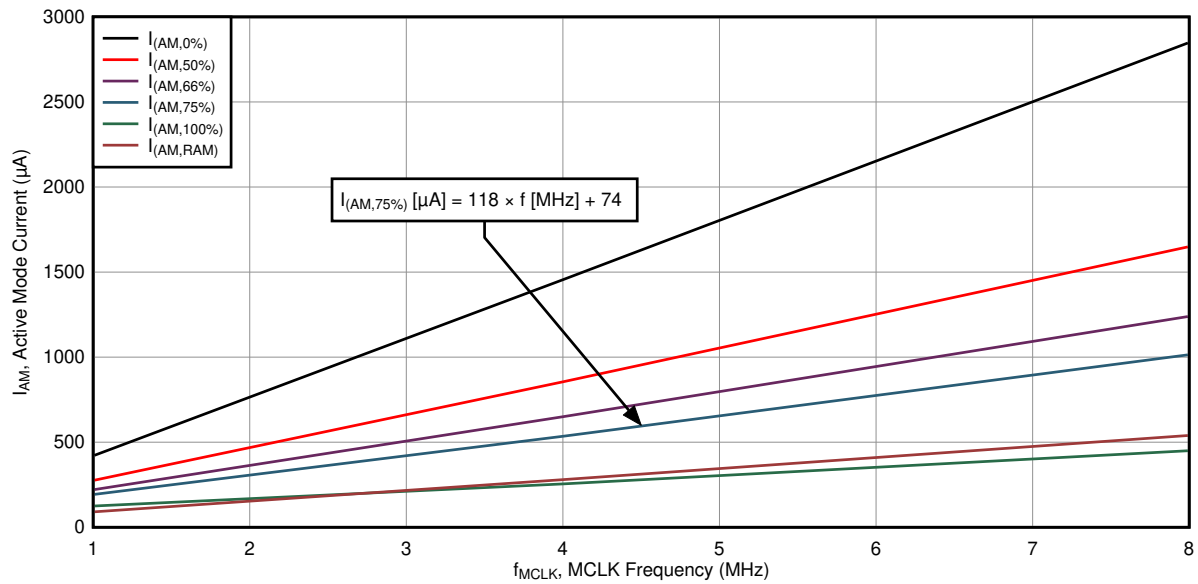

Figure 8-1. Typical Active Mode Supply Currents, No Wait States
over recommended operating free-air temperature (unless otherwise noted)^{(1) (2)} (see Figure 8-1)
(3) Represents typical program execution. Program and data reside entirely in FRAM. All execution is from FRAM.
(4) Program resides in FRAM. Data resides in SRAM. Average current dissipation varies with cache hit-to-miss ratio as specified. Cache hit ratio represents number cache accesses divided by the total number of FRAM accesses. For example, a 75% ratio implies three of every four accesses is from cache, and the remaining are FRAM accesses.
(5) See Figure 8-1 for typical curves. The characteristic equation shown in the graph is computed using the least squares method for best linear fit using the typical data shown in Section 8.4.
(6) Program and data reside entirely in RAM. All execution is from RAM.
(7) Program and data reside entirely in RAM. All execution is from RAM. FRAM is off.